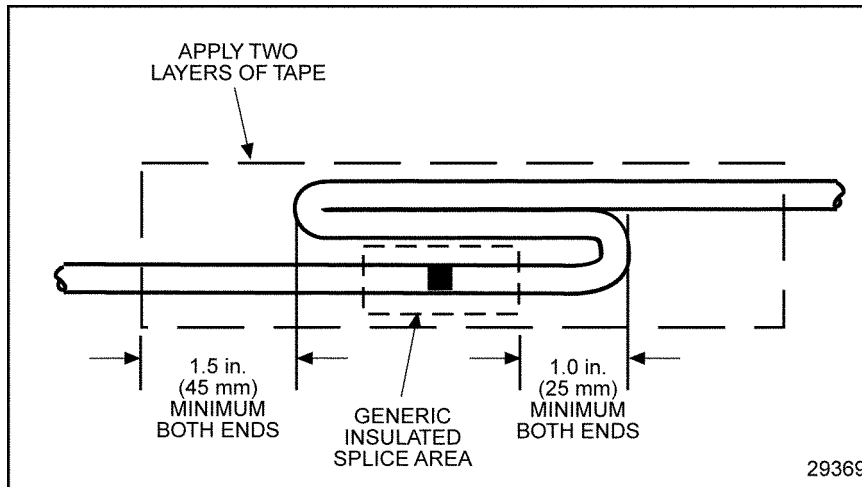

Figure 2-16 Recommended Strain Relief of Spliced Joint
- Loop the lead back over the spliced joint and tape. See Figure 2-16.
8. Loop the lead back over the spliced joint and tape. See Figure 2-16.
9. Loop the lead back over the spliced joint and tape. See Figure 2-16.